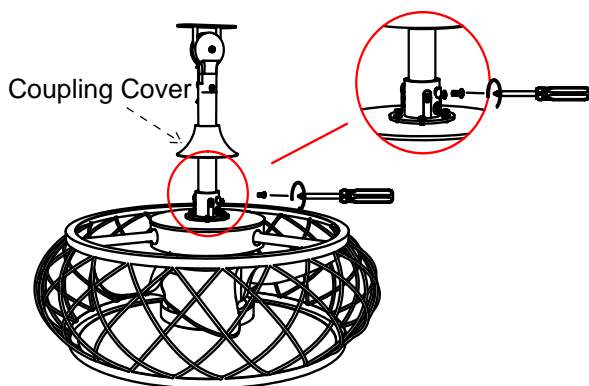

Fig.2
Step 1. Insert the downrod and Coupling Cover connected to the pulley into the downrod hub as shown in Figure 2, insert the Clevis Pin, and reinsert the "R" Pin into the Clevis Pin.
Step 2. Assemble the remaining parts of the pulley assembly and the downrod using the Clevis Pins and "R" Pin, as shown in Fig 2.